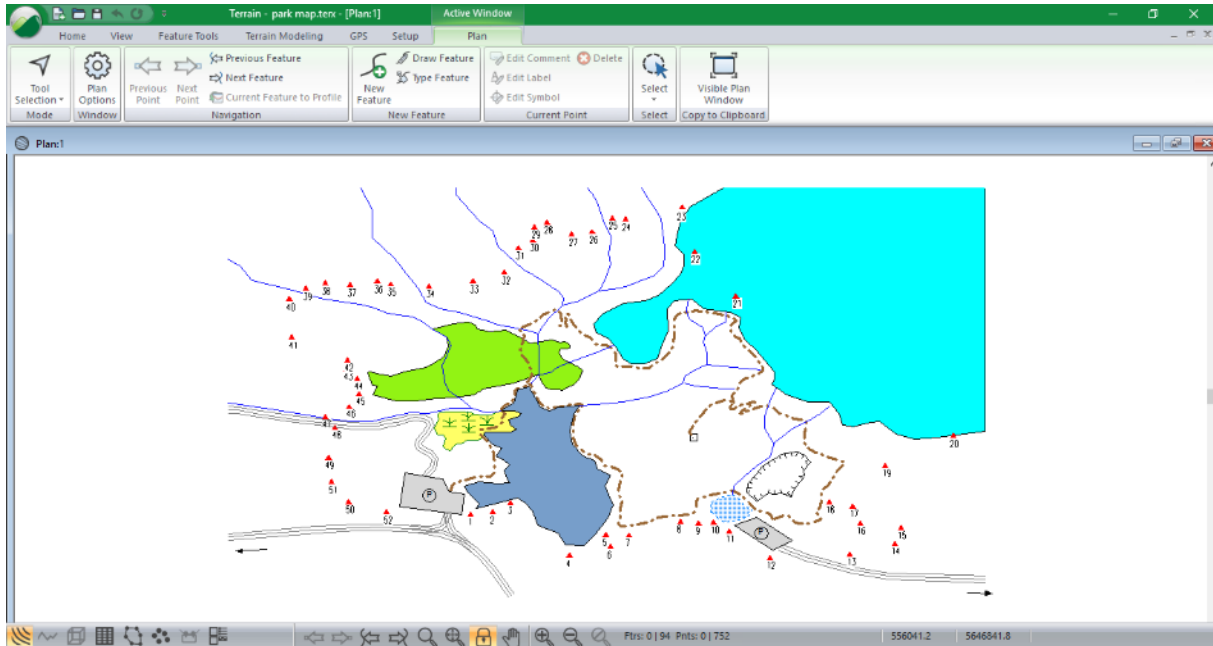

Figure 3-1: File park map.tex open in Terrain Tools
3. Your screen should look like the Figure 3-1. If it does not, maximize your Plan  window.